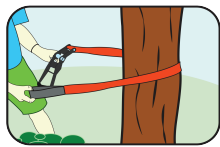
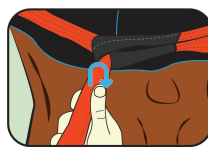

Figure 2
Figure 3
- Take Ratchet Line: wrap around tree and tighten (Figure 2). TIP: to keep you line flat, pinch the line to form a U-shape section where it feeds through the looped end (Figure 3).